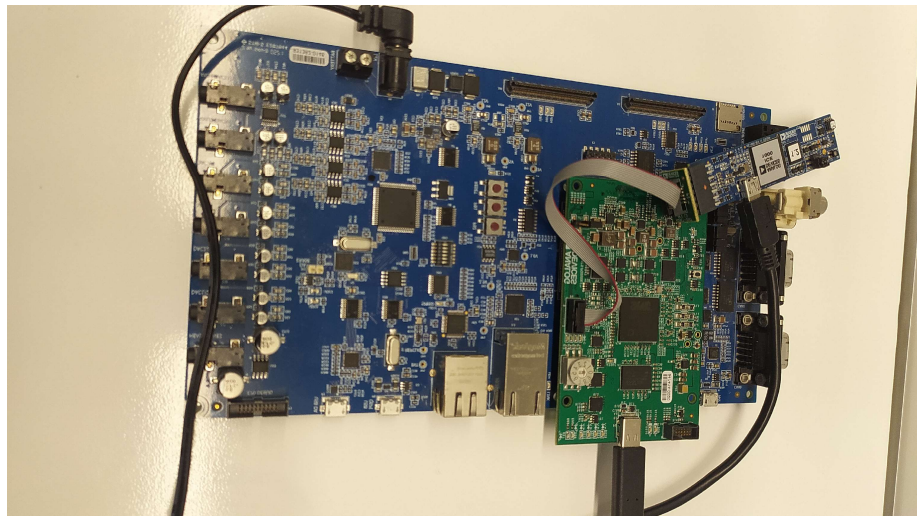

Figure 1: ADSP- SC835 board connections
- 1) Connect the EV-SC835-SOM EZ-KIT® REV A board to the EV-SOMCRR-EZ-KIT® REV D as in the Figure 1.
- 2) Connect the ICE-1000 or ICE-2000 to the 'JTAG' connection (Refer to Figure 1) and the other end to one of the PC's USB ports.
- 3) Connect the USB Type C connector to the EV-SC835-SOM EZ-KIT® REV A board (refer to Figure 1) and the other end to one of the PC's USB ports.